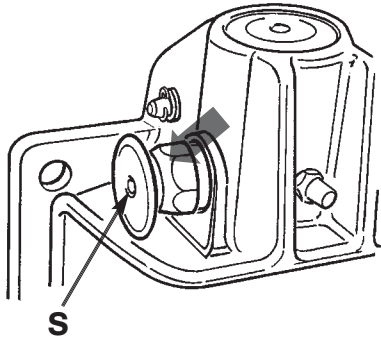

Fig. 2
- Withdraw check pin (S) (see Fig. 2)
- Withdraw control pin (**S**) (see Fig. 2)